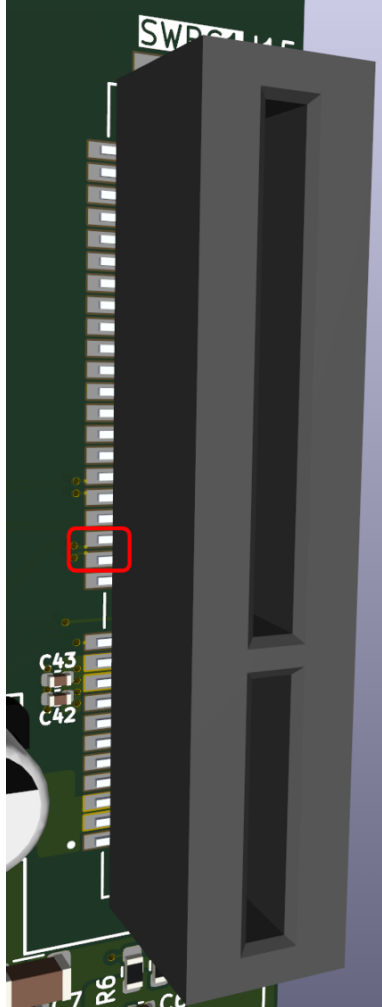

Figure 5: Measurement points on SWRC1
- While the jumper is inserted, probe the clock pins (A13/A14) on the **SWRC1** slot (at the connector entrance). **Refer to Figure 5.**